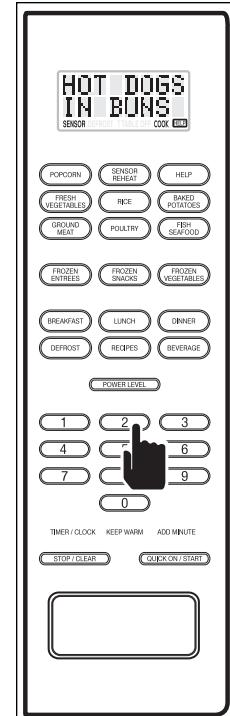

Figure 3-65.
3. Press the QUICK ON/START key. In this example, "HOT DOGS IN BUNS - SENSOR COOK" flashes on the display and the microwave is energized (See Figure 3-65).